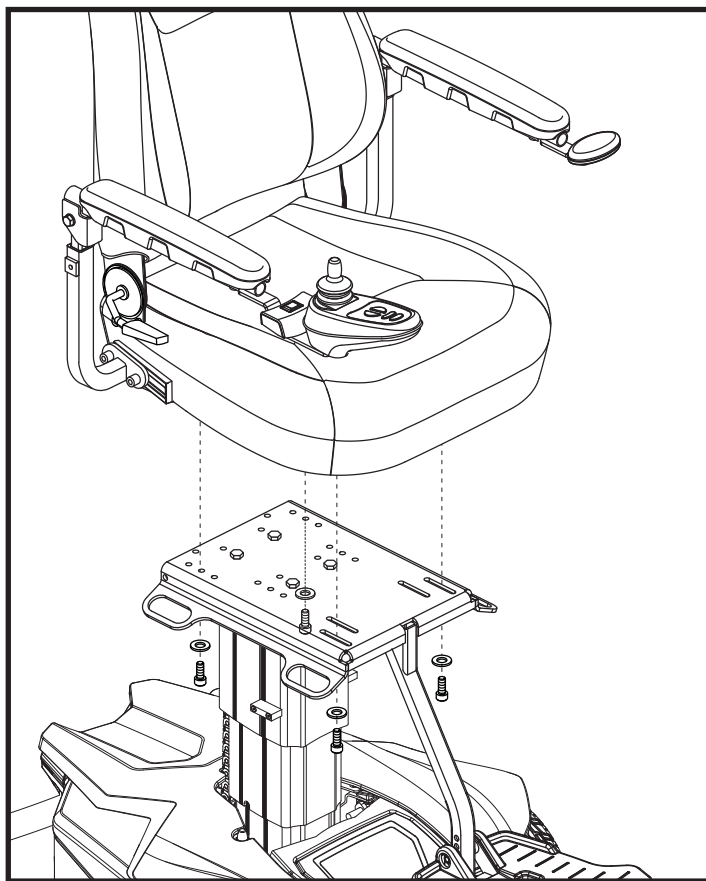

Figure 9. Seat Installation
9. Tip the seat backward. Insert the front bolt with washer through the slot in the seat plate and align with tapped hole in the underside of the seat. Start tightening by hand, leaving the bolts loose. **See figure 9.**